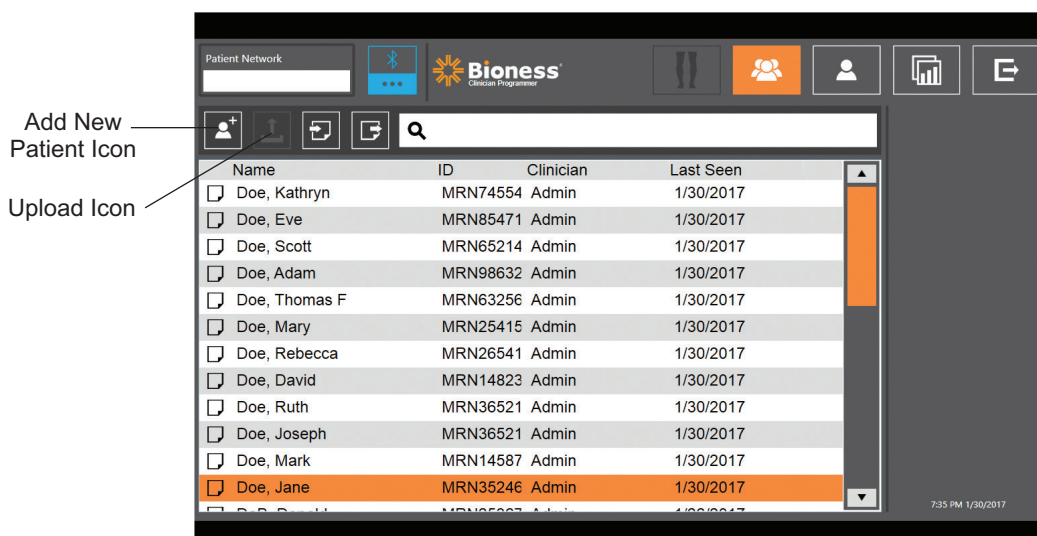

Figure 9-2: Add New Patient Icon
- From the Patient Database Screen, press the Add New Patient icon. See Figure 9-2.
2. Open the Patient Database Screen and highlight the patient from the Patient List. See Figure 9-2.
3. Press the Upload icon. See Figure 9-2. A window will appear stating "Program all stimulators with patient: X,X". Press the Continue button.